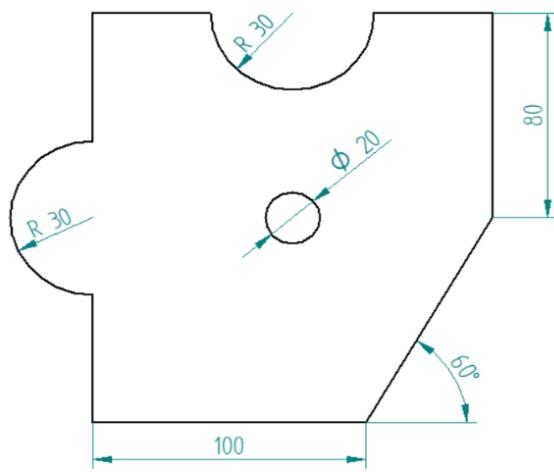

Figure 5b
b) Write manual part program for the component shown in the Figure 5b. Explain each line of the program. **10**